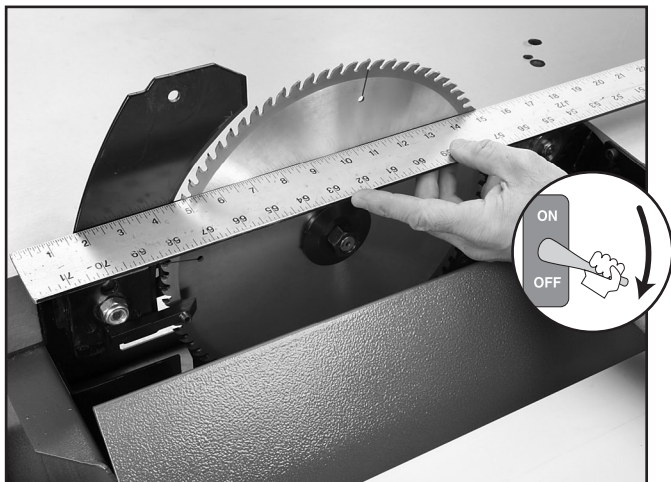

Figure 35. Checking riving knife alignment.
5. Check the blade alignment on both sides of the riving knife with a straightedge, as shown in **Figure 35**.